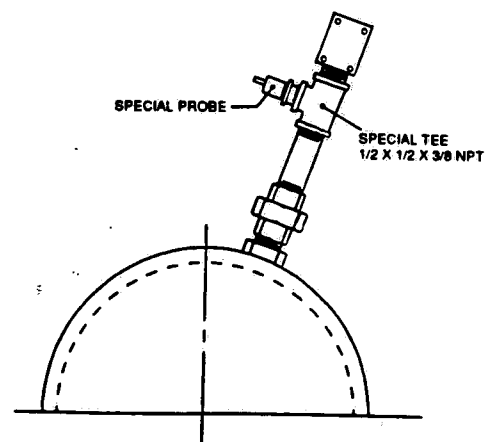

FIGURE 3-9 - CHS Series Piping
**CHS model --** The sensing probe mounts into a special 1/2" x 1/2" x 3/8" tee (see Figure 3-9). This tee is modified with a ground stud brazed into the side. The probe itself is a special Auburn brand probe, part number P764323-511.